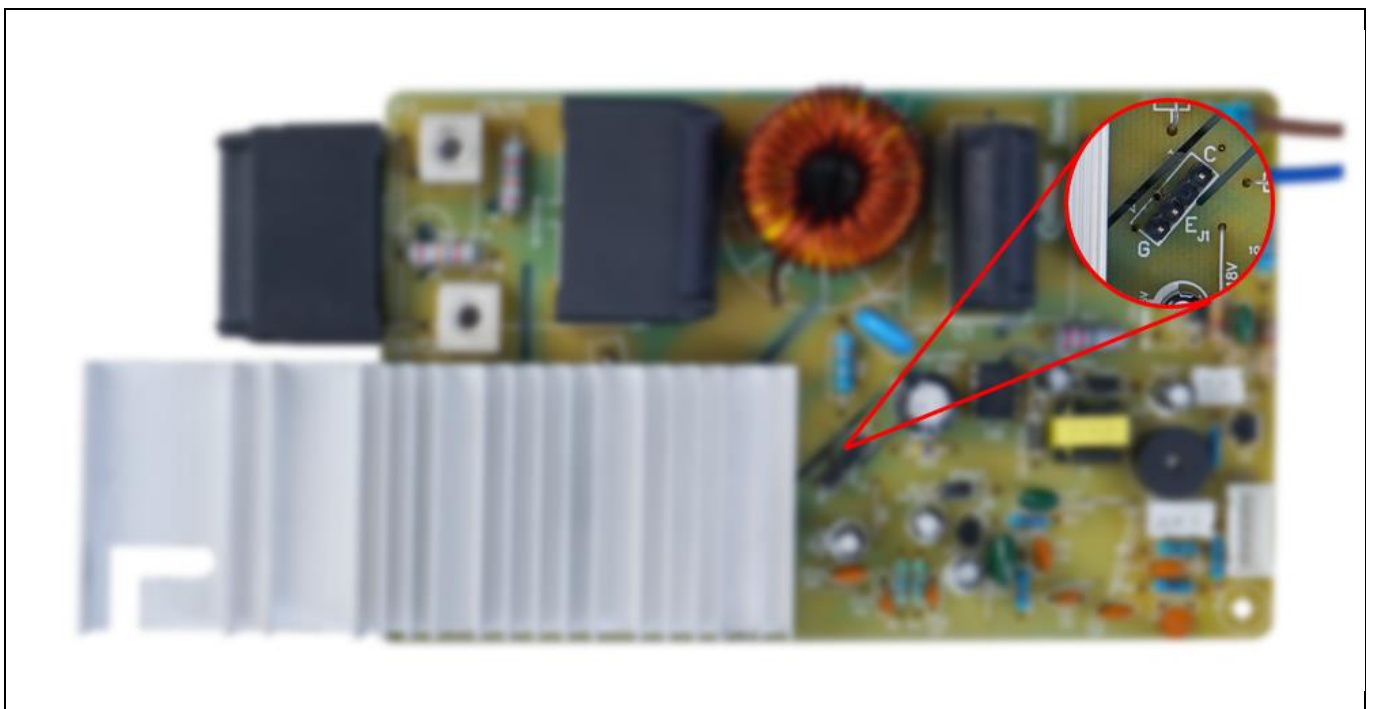

Figure 9 IGBT test points
All three terminals of the IGBT have exposed test points (Figure 9) for easy voltage measurement. The pins allow an easy connection to the collector (C), gate (G), and emitter (E) of the power switch. The IGBT waveforms should be measured with respect to the emitter pin. To obtain collector-emitter voltage using a high voltage probe with an attenuation of 100x or more is recommended. The gate signal of the power switch can be measured using a low voltage probe.